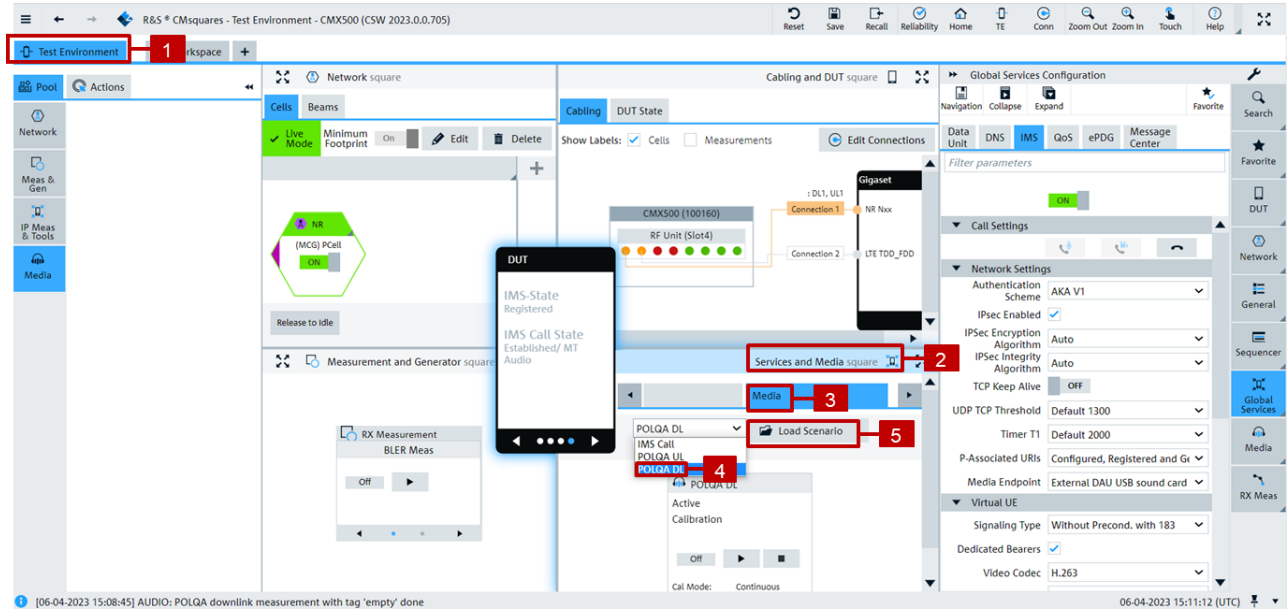

Figure 4-5 Select and load 'POLQA DL' scenario
1. Select and load 'POLQA DL' scenario with the steps shown in Figure 4-5